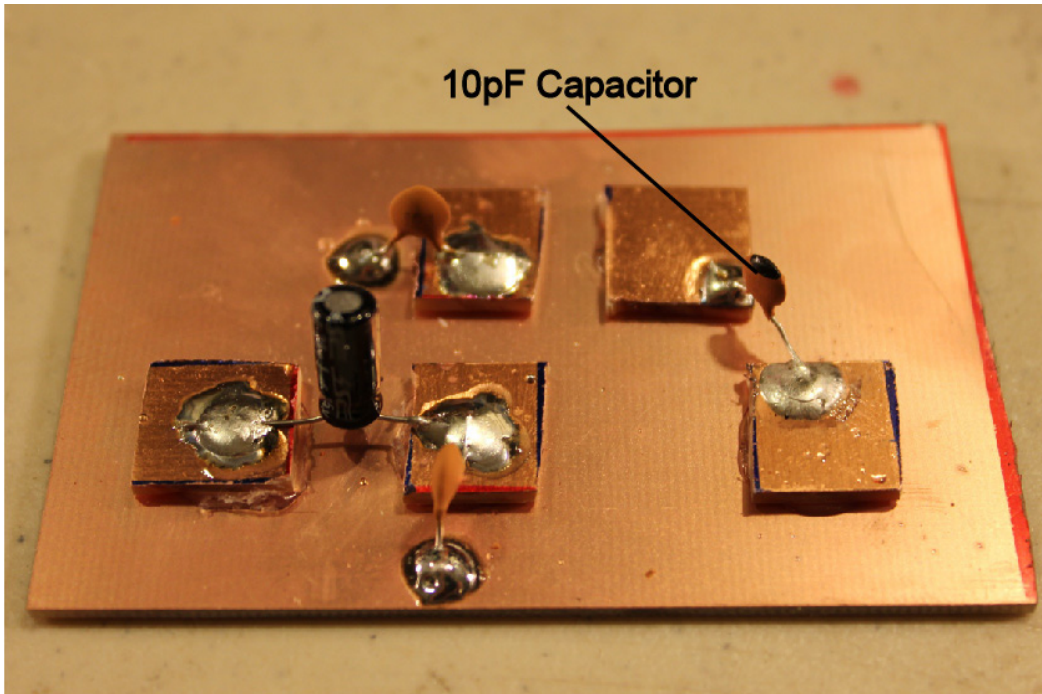

Figure 8
- Solder the 10pF capacitor (non polarized) between the upper right and lower right squares (see figure 8)